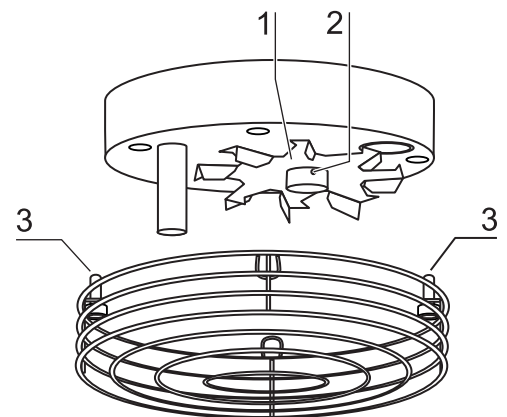

Fig. 20
- Fig. 20:** Remove the two retaining screws [3] of the cover using the supplied Allen wrench (3 mm) and remove the cover.